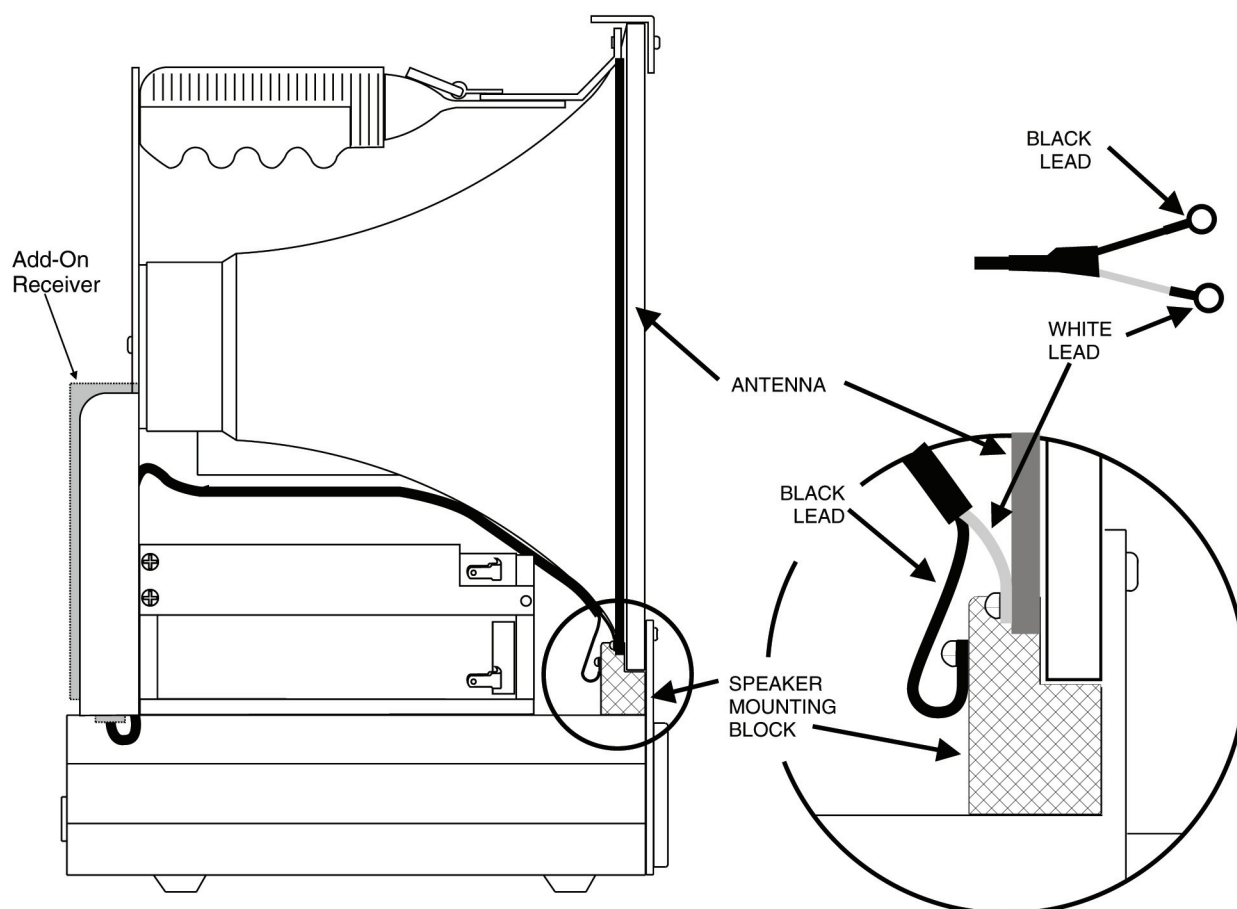

Figure 4 - Add-on Receiver Antenna Connections
The Add-On receiver is supplied with velcro attaching strips and is equipped with the necessary cabling for making the connections to the Long Ranger. The receiver is installed on the Long Ranger by performing the following steps as shown in Figure 4:
1. The antenna cable for the Add-On is packed together with screws, lock washers and the velcro strips. The antenna cable is terminated with two ring lugs. Feed the lug end of this cable through the hole in the Long Ranger rear panel upright. Dress the cable along the top of the battery pack along with the speaker wires as shown in Figure 4.